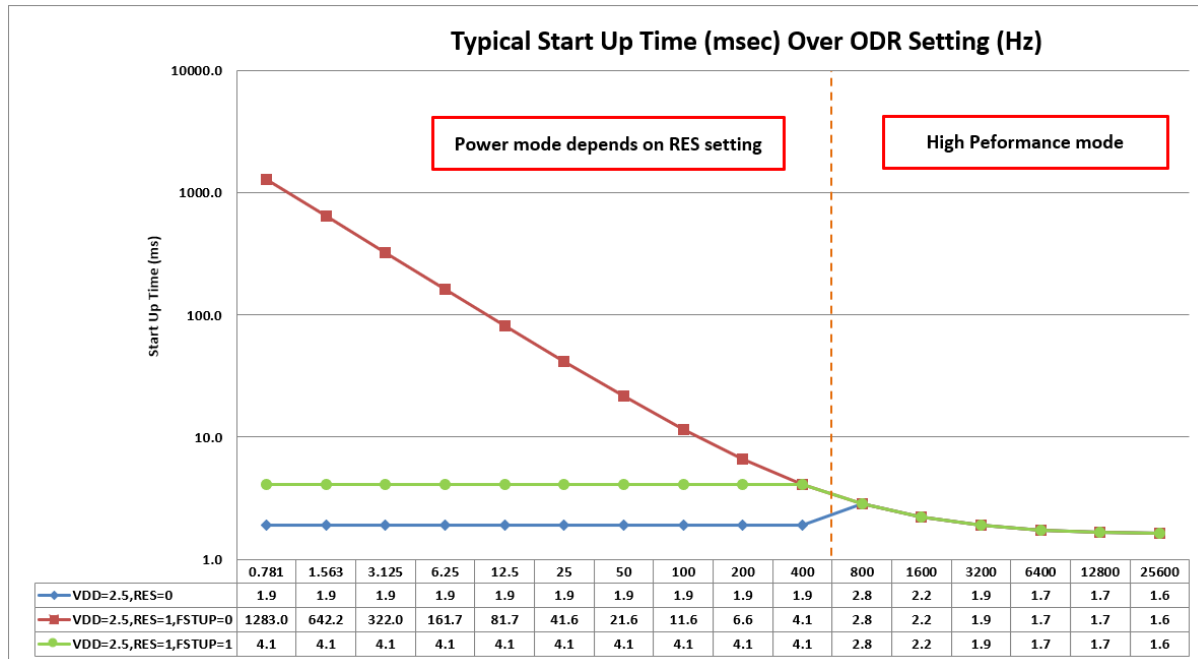

Figure 1: Start Up Time Diagram
- Start up time is from PC1 set to valid outputs. Time varies with ODR, Power Mode, and FSTUP bit setting (see Figure 1).